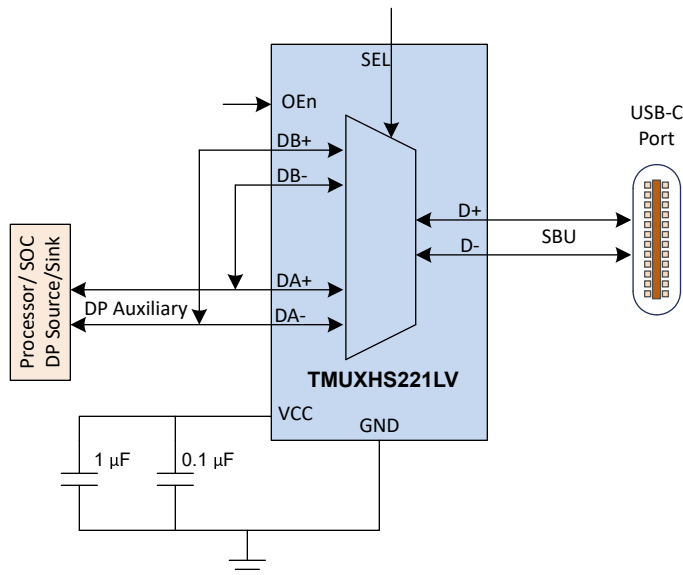

Figure 8-5. USB Type-C SBU Signals Muxing
Figure 8-5 shows an application block diagram that implements SBU cross-muxing in a USB Type-C interface for implementing DisplayPort (DP) Alternate mode using the TMUXHS221LV. Note that the device has adequate bandwidth to support fast Auxiliary (AUX) signals. It is also capable of handling asymmetric biasing for DP AUX signals.